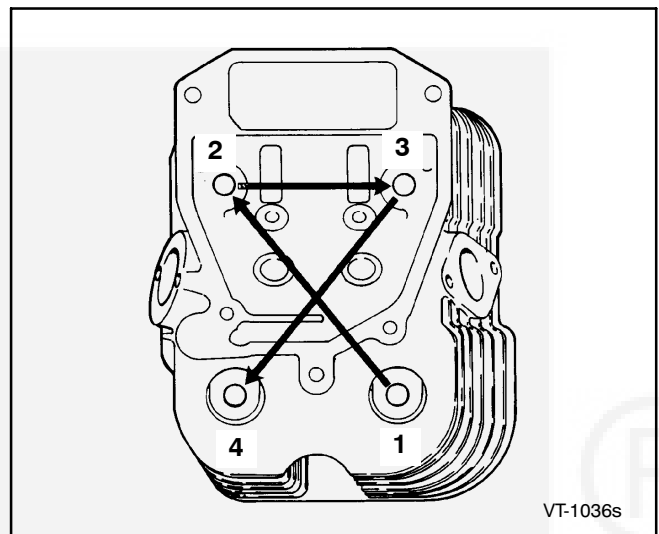

FIGURE 10-4. CYLINDER HEAD TIGHTENING SEQUENCE
7. Place head in position and follow head torque tightening sequence shown in Figure 10-4. Start out tightening all bolts to 11 ft-lb (15•m), then tighten to the specified torque (see Torque Specification section).